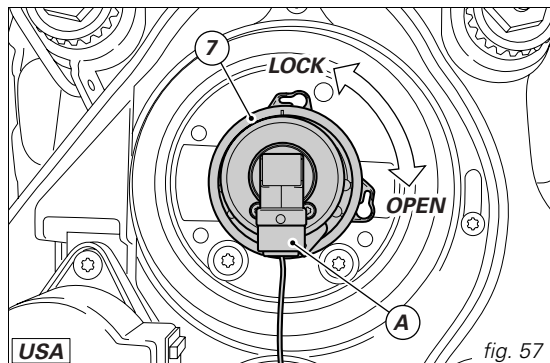

fig. 57
To remove the low beam bulb (7) disconnect connector (A) from the wiring then turn the bulb counter clockwise and extract the burnt-out bulb (fig. 57). Replace it with a new one with the same rating. When refitting, turn the bulb clockwise to lock it on the bulb body.